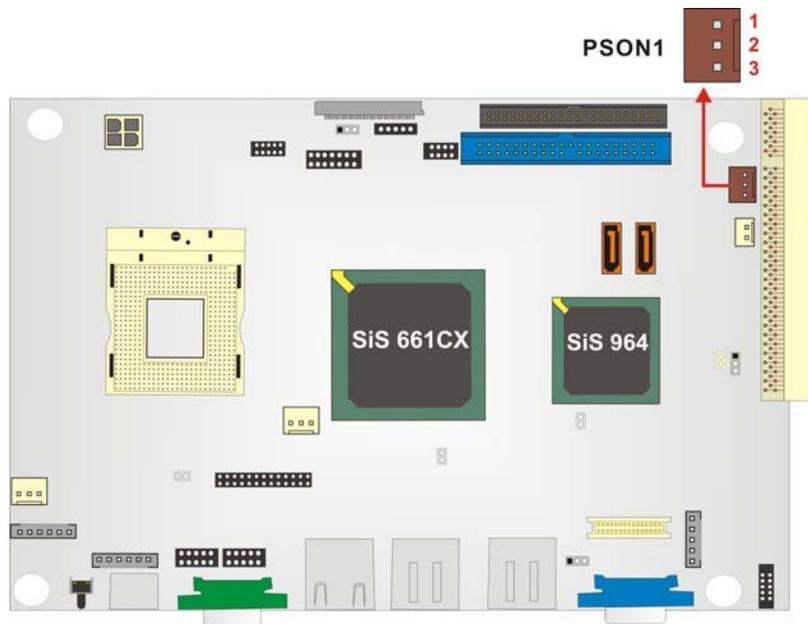

Figure 3-4: ATX Power Connector Pinouts
- CN Location:** See Figure 3-4